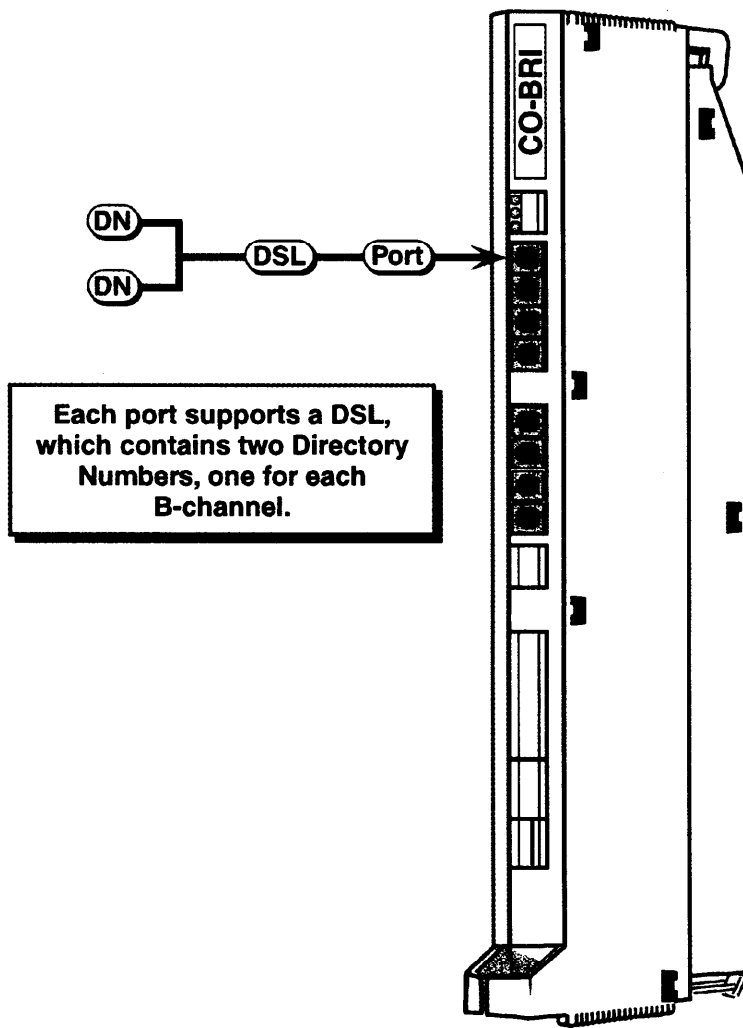

Figure 2-1. 800 CO-BRI Module
The 800 CO-BRI module serves as the Integrated Services Digital Network (ISDN) Basic Rate, two-wire U-interface between the MERLIN LEGEND system and the central office (CO) Basic Rate Interface (BRI) lines (see Figure 2-1).
The 800 CO-BRI module consists of eight ports. Each port supports a BRI line (also called a Digital Subscriber Line or DSL). Each DSL maps to two MERLIN LEGEND lines and supports two Directory Numbers, for a total of 16 lines or Directory Numbers per 800 CO-BRI module (see Figure 2-1). Up to five 800 CO-BRI modules can exist in a system (80 lines). The system supports a maximum of two 100D modules.